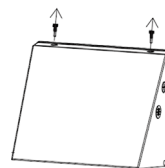

Fig. 1.1
1. Loosen and remove the 2 screws on top of the luminaire (Fig. 1.1).